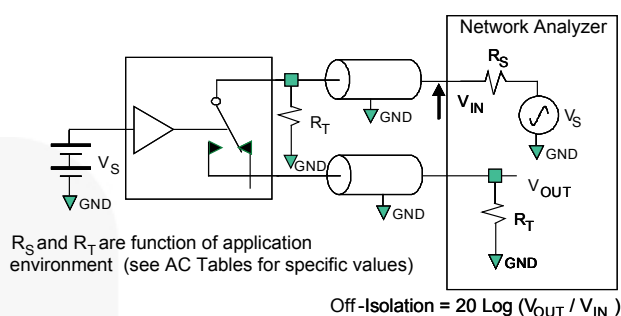

Figure 12. Channel Off Isolation
| $O_{IRR}$    | Off Isolation (9)                     | 2.7 to 3.6                | $f=10\text{MHz}$ , $R_T=50\Omega$ , $C_L=30pF$ ,See Figure 12   |                                                     | -60  |      | dB   |
| $O_{IRR}$    | Off Isolation (11)                  | 2.7 to 3.6              | $f=10MHz$ , $R_T=50\Omega$ , $C_L=30pF$See Figure 12            |                                        | -60  |      | dB   |